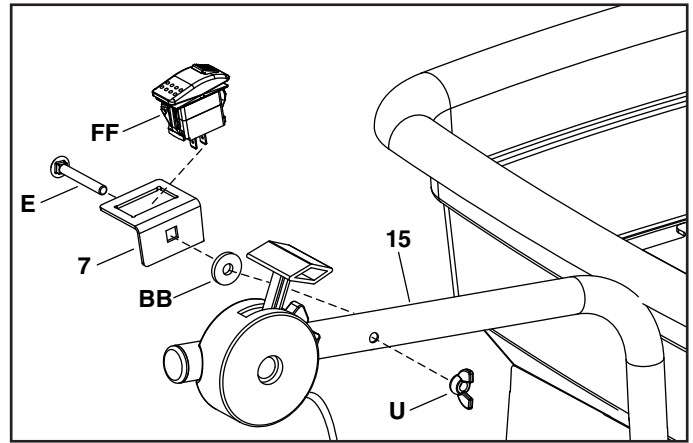

FIGURE 18
STEP 18: (SEE FIGURE 18)
- Install one carriage bolt (E) through the switch bracket (7), nylon washer (BB), and the control mount tube (15).
- Secure and tighten with one nylon wing nut (U).
- Install the on/off switch (FF) into the switch bracket (7) as shown below. Switch is installed when you hear the click.